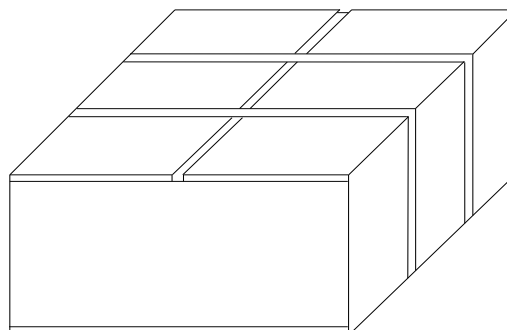

Fig.3-5 Place on platform smoothly
2. The packing case must be placed on the platform smoothly, as is shown in Fig.3-5.